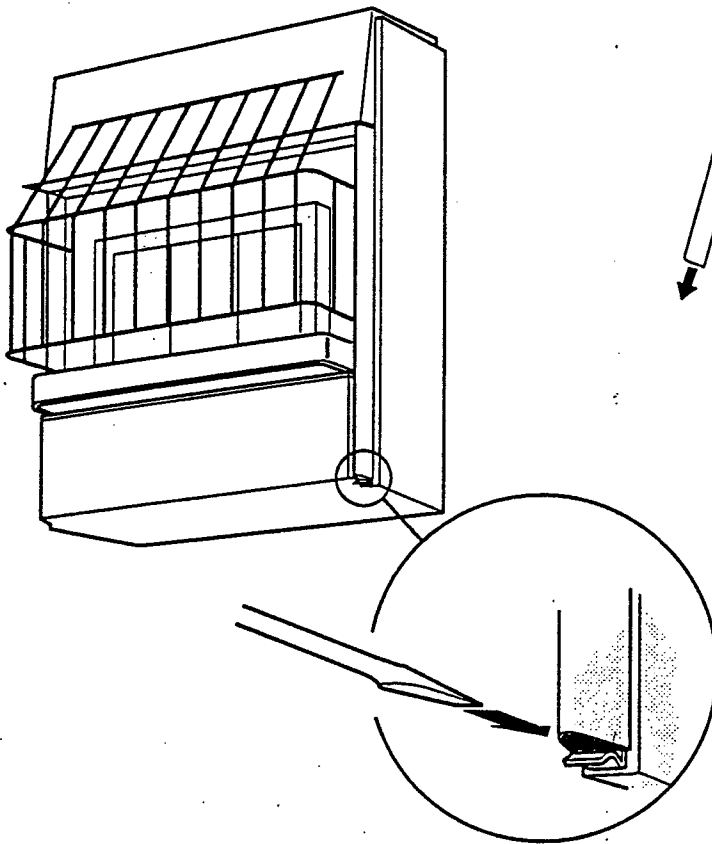
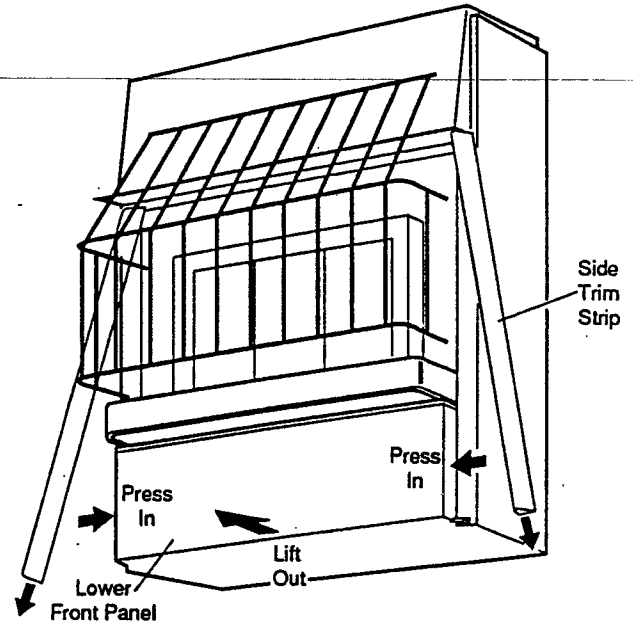

Figure 3 - Side Trim Strips Removal
Figure 4 - Front Panel Removal
2. To remove the lower front panel, first remove the side trim strips by depressing the spring clips with a screwdriver, as shown in Figure 3. Press in on the sides of the front panel and remove, as shown in Figure 4.